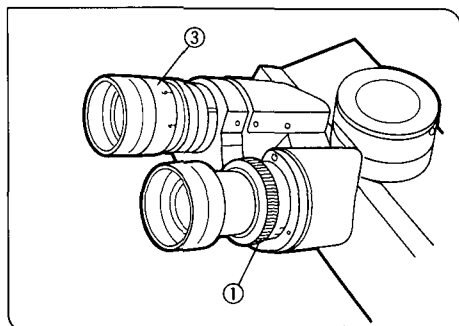

Fig. 70
(Figs. 70, 71)
1. Looking through the right eyepiece, turn the diopter adjustment ring ① on the eyepiece sleeve until the periphery of the field of view is sharp. (Fig. 70)
3. Looking through the helicoid eyepiece, turn the diopter adjustment ring ③ on the eyepiece to focus on the specimen. (Fig. 70)